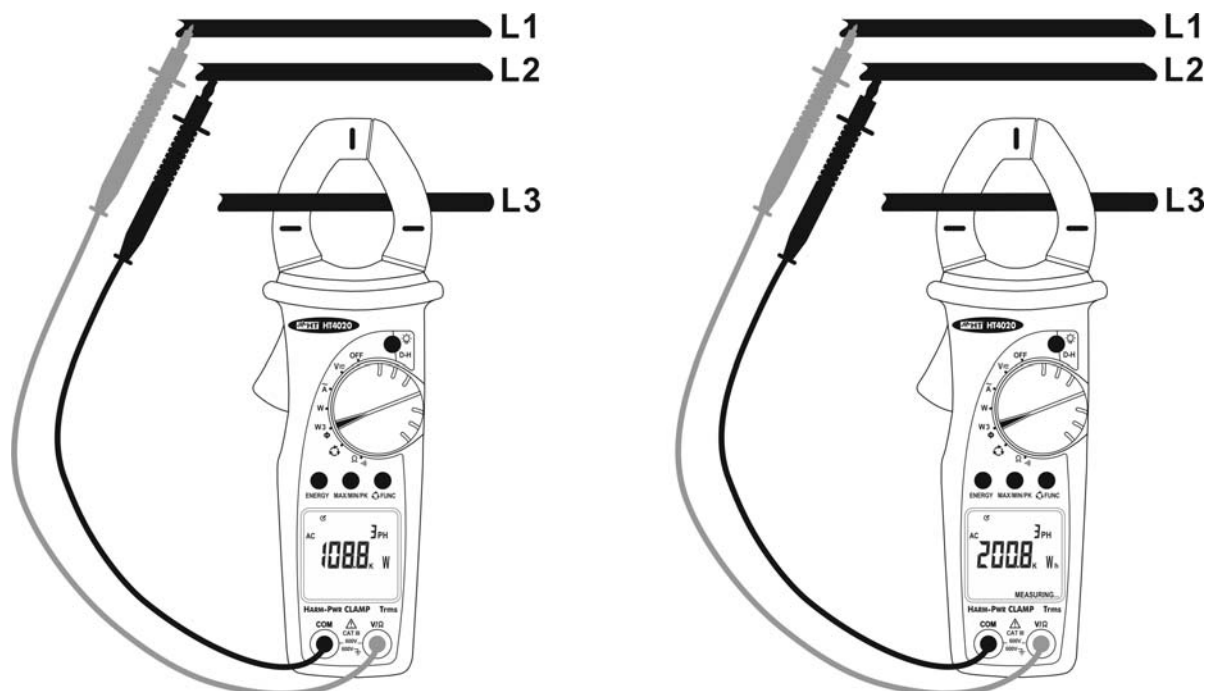

Fig. 12: Use of instrument for power/energy measure on three phase balanced system
2. Open the jaws and clamp the L3 phase cable. Pay attention to the alignment marks (see § 4.1.2. and Fig. 12)
4. Connect the red test lead to L1 phase conductor and the black test lead to L2 phase conductor (see Fig. 12). The measured active power value is displayed